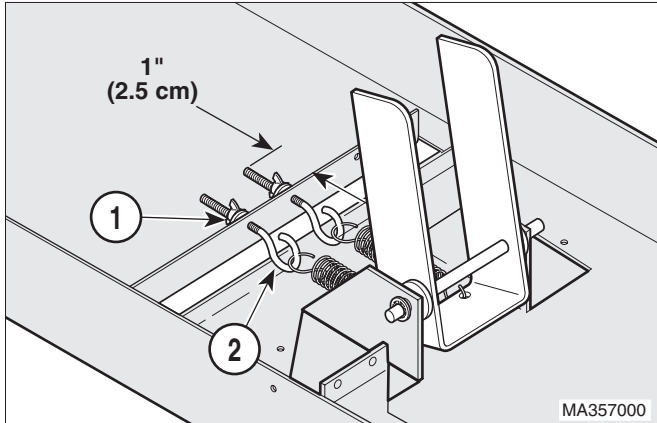

Figure 4-10. Lift Lever Removal / Installation
The wing nuts (1, Figure 4-10) should be threaded onto the eye bolts (2) approximately 1 inch (2.54 cm).
- (5) Check the position of the wing nuts (1, Figure 4-10) on the eye bolts (2) of the lift assembly.
- (7) Check to insure the head section (A) raises and lowers smoothly. If necessary, adjust the wing nuts (1, Figure 4-10) on the eye bolts (2) to adjust the tension on the lift springs.